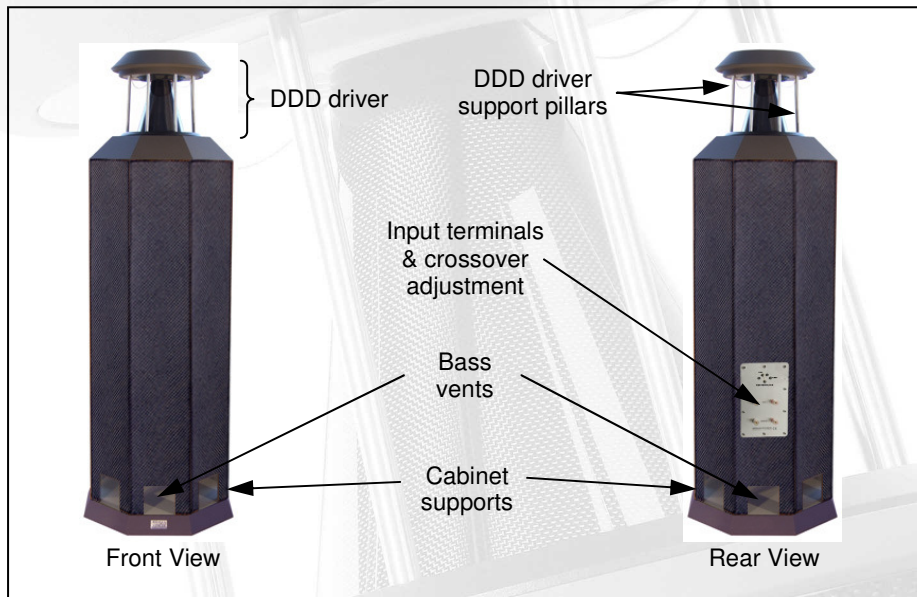

Figure 4. Principle Features of the Carbon Mk IV
Do not lift them by the DDD driver support pillars (figure 4) as this may damage the driver.
Do not lift them by the cabinet supports (figure 4) as this may damage the cabinet.
3. Lift the loudspeaker out of the shipping carton by holding it around the cabinet. Do not lift it by the DDD driver support pillars or cabinet supports – figure 4.